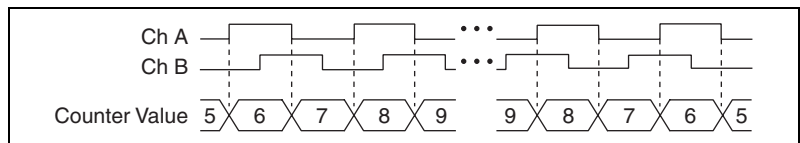

Figure 7-15. X2 Encoding
- X2 Encoding**—The same behavior holds for X2 encoding except the counter increments or decrements on each edge of channel A, depending on which channel leads the other. Each cycle results in two increments or decrements, as shown in Figure 7-15.